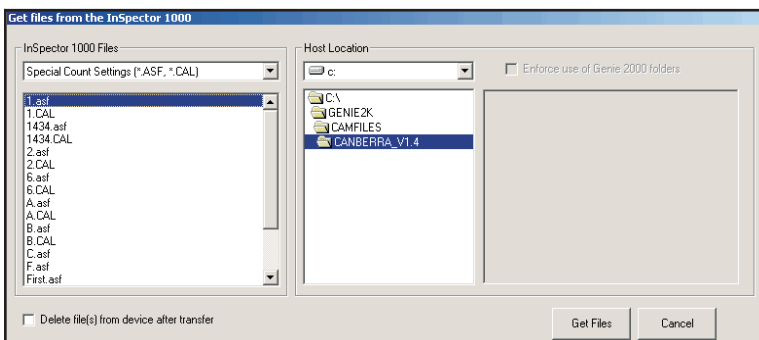

Figure 88 The Get Files List for Special Count Settings
- From the "InSpector 1000 Files" drop-down list, select Special Count Settings (ASF, CAL). See Figure 88.